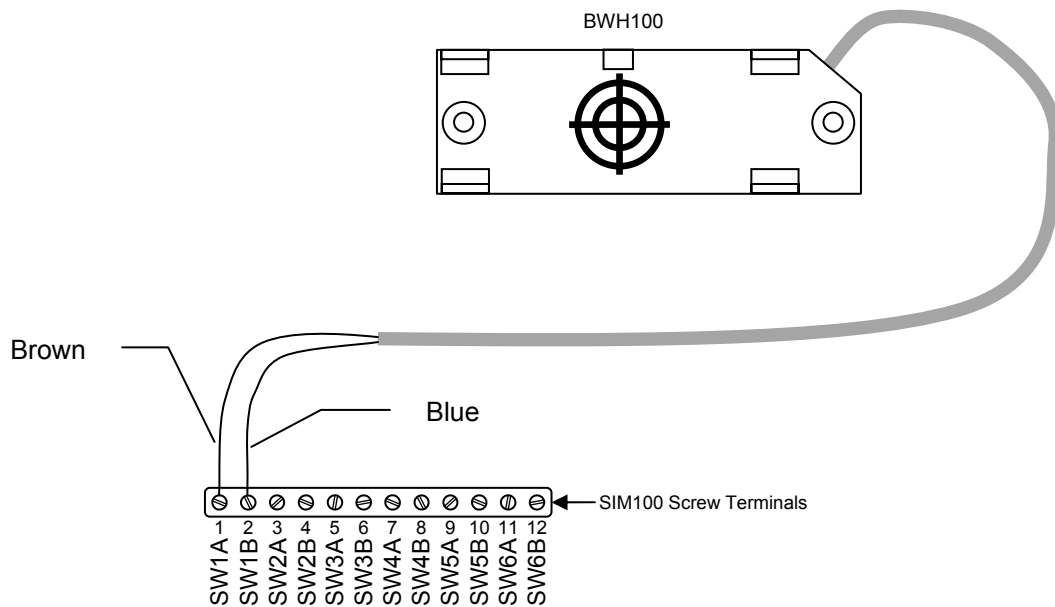

Figure 1 – Wiring Diagram
Please follow these instructions to connect the BHW100 to the NMEA 2000 network via a Maretron SIM100 Switch Indicator Module. The wiring diagram appears in Figure 1 below. The diagram shows a connection to channel #1, but connections to other channels are similar.
1. The BHW100 cable contains one blue and one brown wire. Connect the brown wire to the appropriate SWxA terminal on the SIM100 as shown in Figure 1 below.
2. Connect the blue wire to the appropriate SWxB terminal on the SIM100 as shown in Figure 1 below.